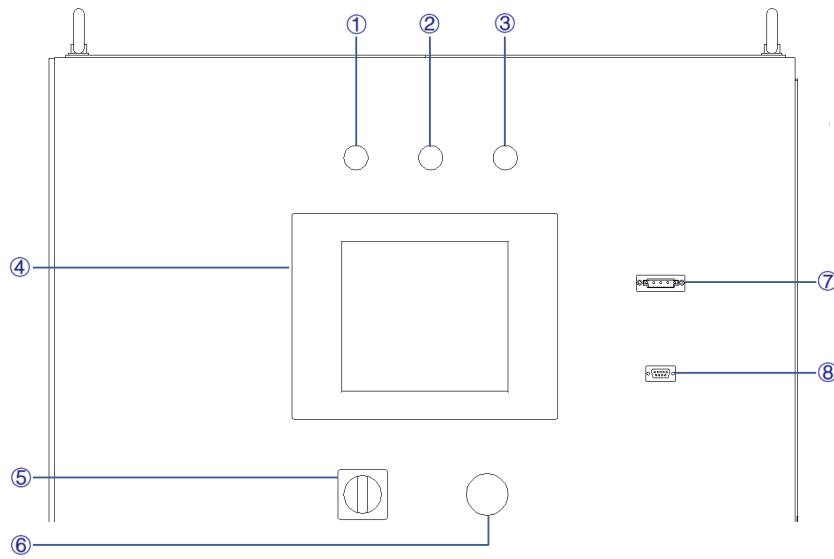

Figure 1-13 Front panel of the power supply
The RS232 interface is located on the front panel of the power supply (Figure 1-13⑧).